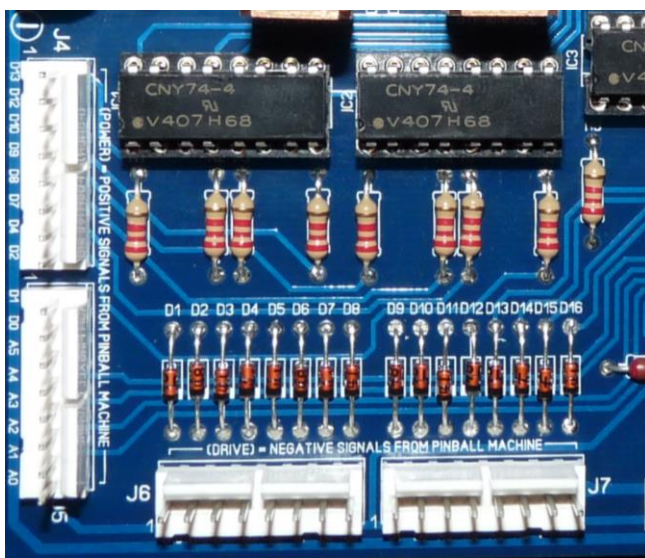

Figure 8: Connectors on the shield
- 1.) Connect the Power Signal of the device you want to monitor from the pin to the Power connector J4 pin 1 on the shield (that would be the topmost pin in Figure 8). Then connect the Drive Signal of the same device from the pin to the Drive connector J6 pin 1 on the shield (the leftmost pin of J6).